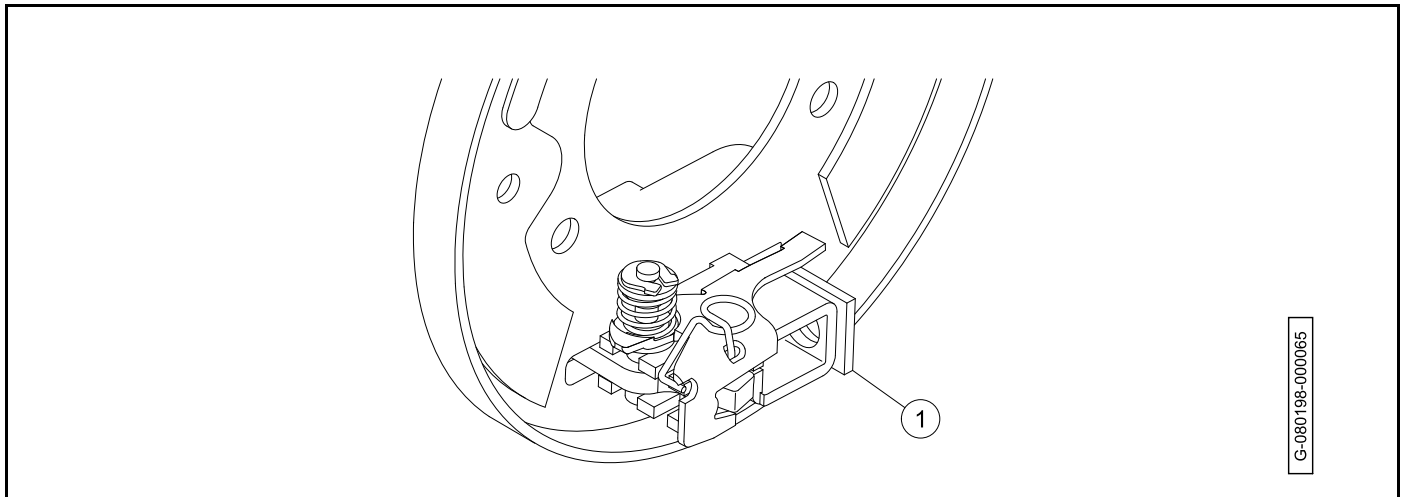

Figure 6-7
2. Remove the dust cover (2) from backing plate and wipe with a clean damp cloth.
3. Lubricate the slide (1) with dry moly lubricant (**Figure 6-7**).